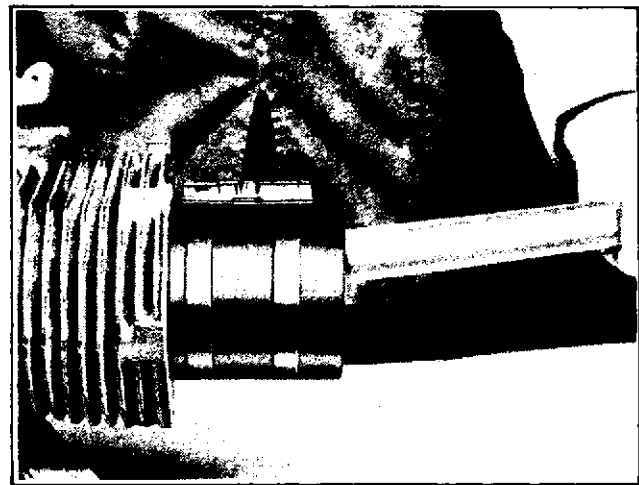

Figure 8-9. Pushing Piston into Cylinder Barrel
2. After making sure rings are in proper position in correct grooves, oil complete assembly, stagger ring gaps so they are not in line and insert complete assembly into cylinder bore. Be sure connecting rod match mark is toward flywheel side of engine. Use a ring compressor to prevent ring breakage during installation. Gently push piston into bore with wooden or plastic hammer handle, *Do Not Pound* (see Figure 8-9). (NOTE: Position crankshaft to prevent rod from striking crankpin.)